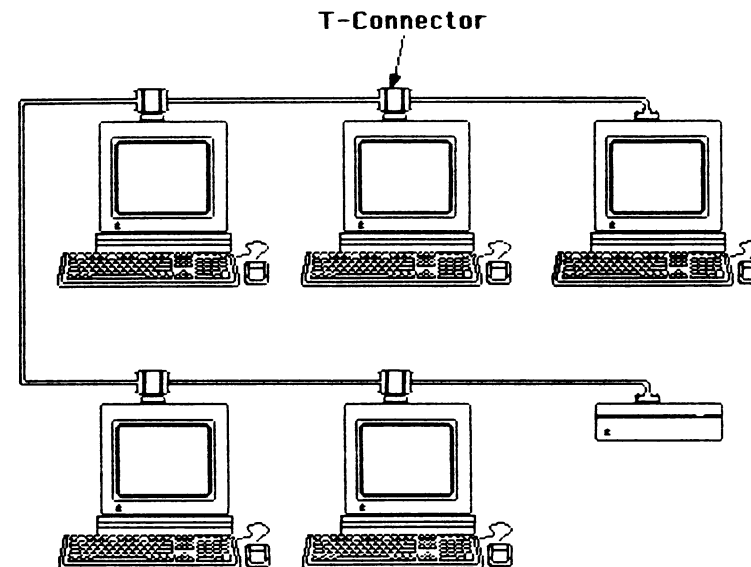

Figure 6-1: A Multi-User System.
The *Multi-User System* uses System Partitions (see Chapter 5) to allow safe sharing of SCSI drives. Up to seven computers can be connected to the same drive, using SCSI cables to "chain" one computer to the next (see figure 6-1). This saves having an expensive hard disk for each computer, AND allows users to share common programs and data.
- 4) Attach the first computer in your system to the next computer (using an SCSI cable), then attach all the remaining computers together (see figure 6-1).